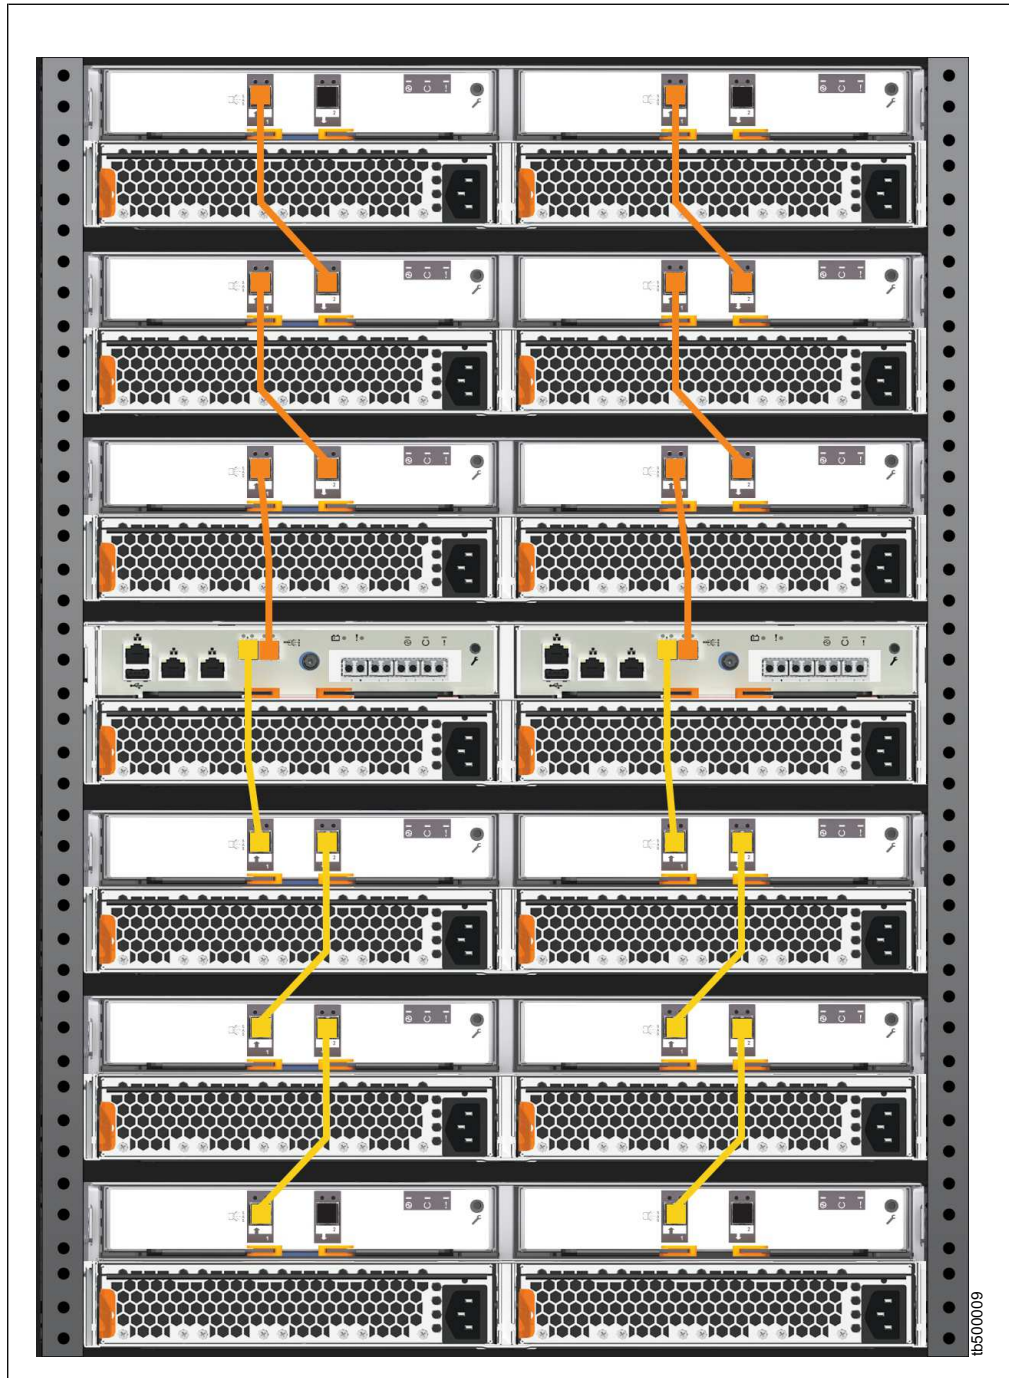

Figure 20. Connecting the SAS cables to a Storwize V5030 system
Figure 20 on page 28 shows how to connect SAS cables on a Storwize V5030 system. In this figure, two expansion chains are connected to the Storwize V5030 system.
2. To add a second expansion chain to the Storwize V5030 control enclosure, use the supplied SAS cables to connect the control enclosure to the expansion enclosure at rack position 2, as shown in Figure 20.
3. If more expansion enclosures are installed, connect each one to the previous expansion enclosure in a chain; use two Mini SAS HD to Mini SAS HD cables, as shown in Figure 20 on page 28.